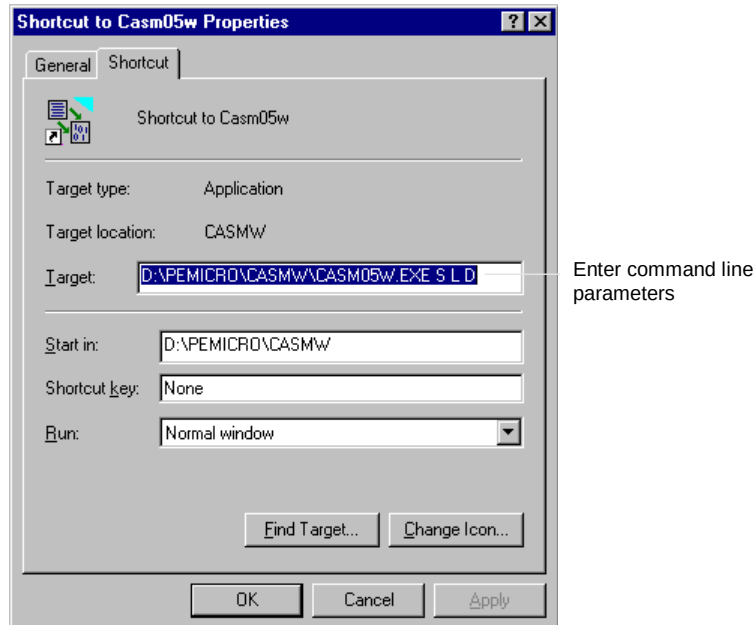

**Figure 5-2. Windows 95 Program Item Property Sheet
You can pass parameters to the assembler by modifying the command line in the Program Item properties in Windows, as shown in Figure 5-2.
1. If the program is not running, right-click its icon on the Windows desktop, or its shortcut entry in a folder or Windows Explorer window to open the *Shortcut Properties* sheet (Figure 5-2).